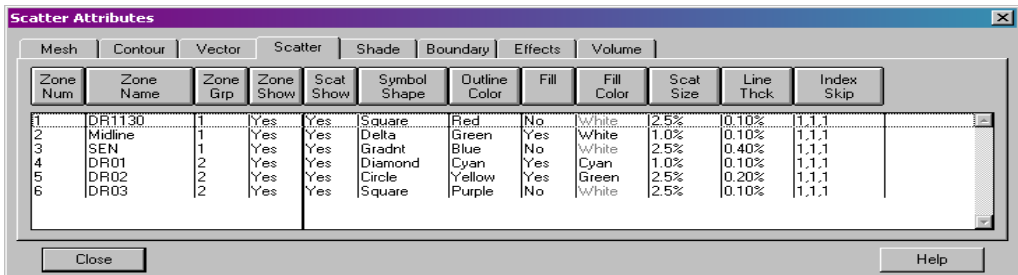

Figure 14-2. The Scatter Attributes dialog.
Once you have read in your data, you can modify your scatter plot attributes using either the Scatter Attributes dialog or the Quick Edit dialog. You can control any of the following attributes from the Scatter Attributes dialog, shown in Figure 14-2:
1. Choose Scatter Attributes from the Scatter sub-menu of the Field menu. The Scatter Attributes dialog appears, as shown in Figure 14-2.